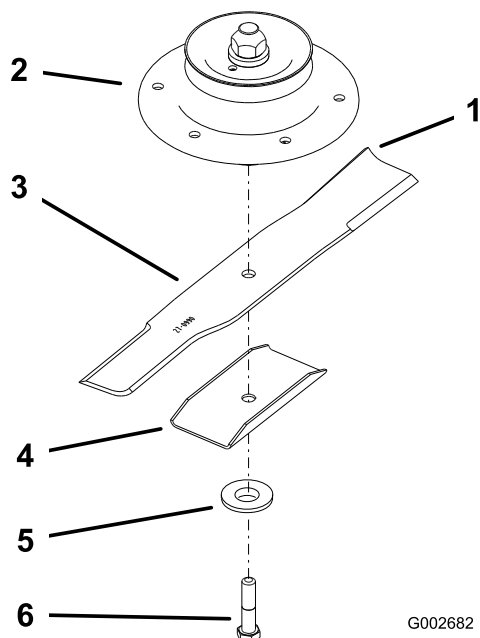
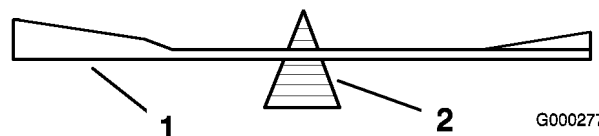

Figure 53
Figure 55
2. Remove the blade bolt, blade stiffener, washer, and blade from the spindle shaft (Figure 53).
2. Check the balance of the blade by putting it on a blade balancer (Figure 55). If the blade stays in a horizontal position, the blade is balanced and can be used. If the blade is not balanced, file some metal off the end of the sail area only (Figure 53). Repeat this procedure until the blade is balanced.
1. Install the blade onto the spindle shaft (Figure 53).
Important: The sail part of the blade must be pointing upward, toward the inside of the mower to ensure proper cutting (Figure 53).
2. Install the blade stiffener, flat washer and blade bolt (Figure 53).